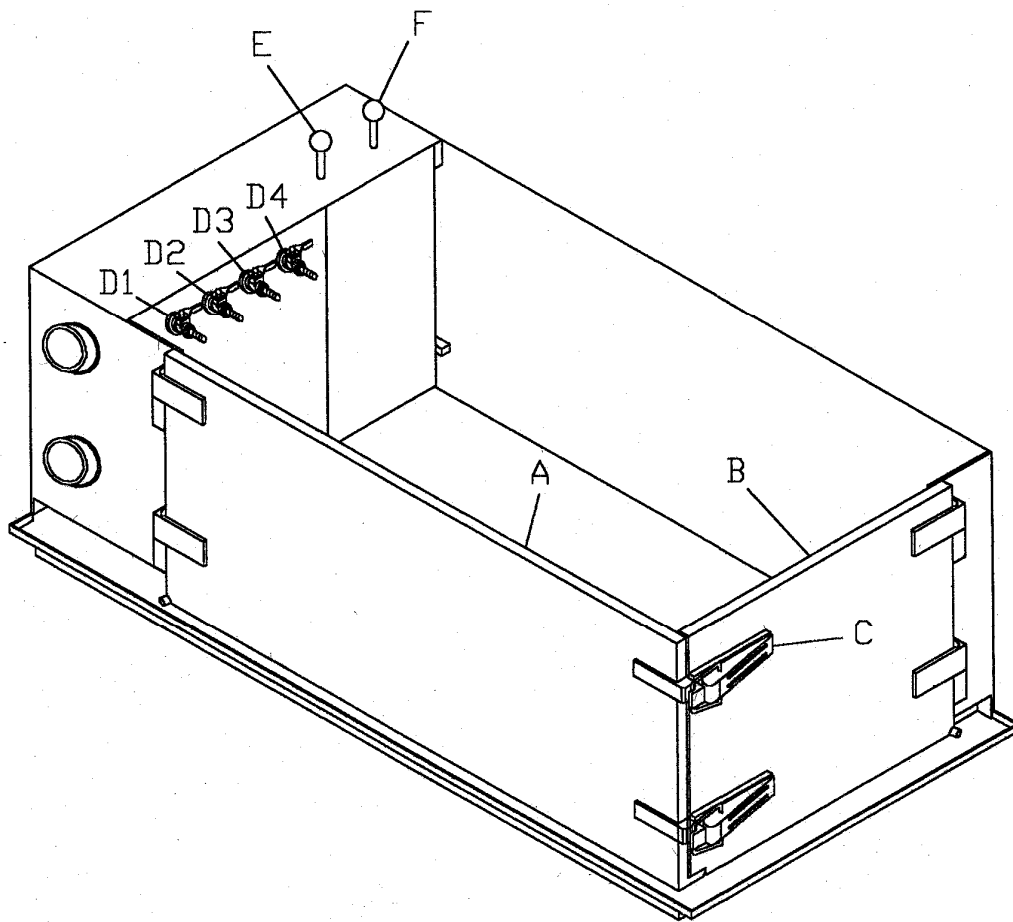

FIG. 4-1
1. CLOSE WORK TANK DOOR AND LOCK IT. (FIG.4-1)
3. TURN RIGHT THE DRAIN GATE CONTROL ROD (FIG.4-1-E) AND IT WILL OPEN THE DRAIN GATE. (TURN C.W.)
- ※ THE OIL LEVEL CAN BE ADJUSTED BY THE POSITION OF OIL LEVEL CONTROL ROD (FIG.4-1-F).